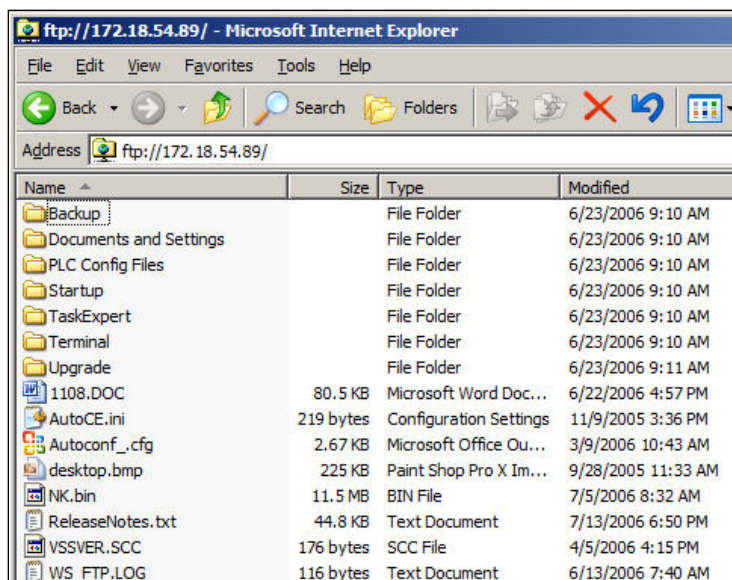

Figure D-8: Internet Explorer FTP Window
2. Explorer will display the IND780's directory structure (Figure D-8).